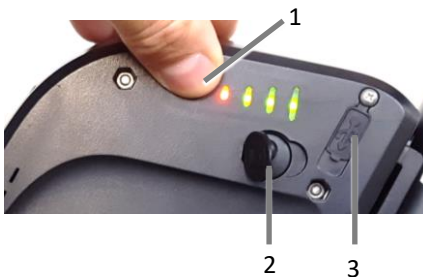

Figure B2. Checking the battery charge:
- Connect the **power cord (5)** firmly to the **power socket on the charger (6)**.
- Gently remove the small rubber cap to expose the **battery input socket (Figure B2, 2)** on the battery.
- Connect the **charger output cable (7)** to the **battery input socket (Figure B2, 2)** on the battery.
- Connect the **power chord (5)** to the **wall power point (AC, 110/220 Volt, 50/60Hz) (4)**.
Alternative Procedure if there is a visible SPARK between the **battery input socket (Figure B2, 2)** and the **charger output cable (7)**: